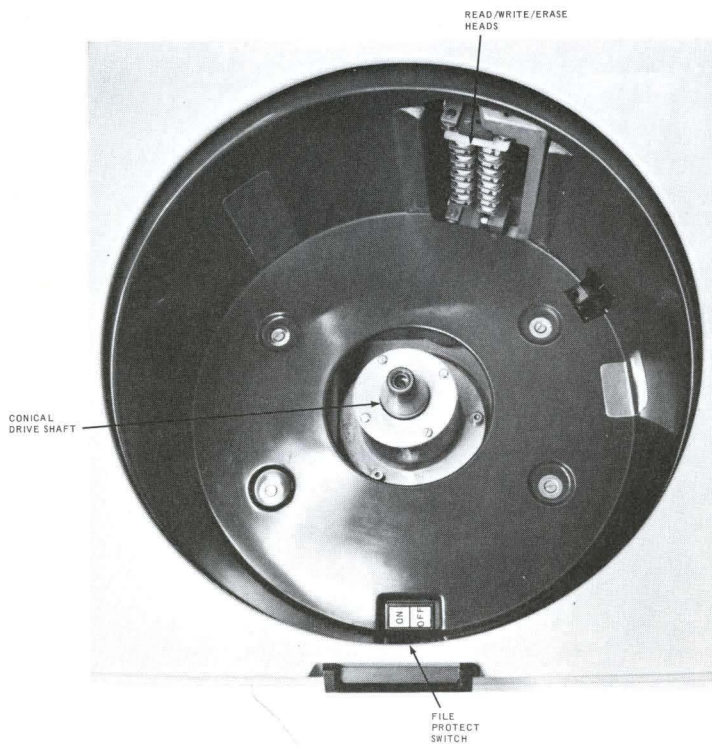

Figure 4-2. Disc Pack Well
- (3) Ensure that the file protect ON/OFF rocker switch, located in the disc pack well (Figure 4-2), is in the ON position if a read-only operation is desired, or in the OFF position if a write or read/write operation is desired.
- (4) Remove the bottom cover of the disc pack and grasp the handle of the protective, plexiglass top cover of the pack; lower the pack gently onto the conical drive shaft in the center of the well (Figure 4-2).